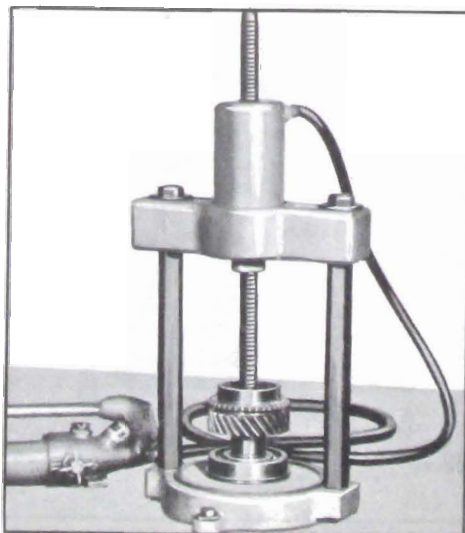

Figure 4-62—Installing Main Drive Gear Bearing
2. Using heavy grease to retain the rollers, install 20 rollers in either end of the counter gear, two .050" spacers, 20 more rollers, then one .050" spacer. Install in the other end of the counter gear, 20 rollers, two .050" spacers, 20 more rollers, and another .050" spacer. (See Figure 4-62).
3. Press bearing onto main drive gear (snap ring groove to front), using J-5746 (Figure 4-62). Be sure bearing fully seats against shoulder on gear.